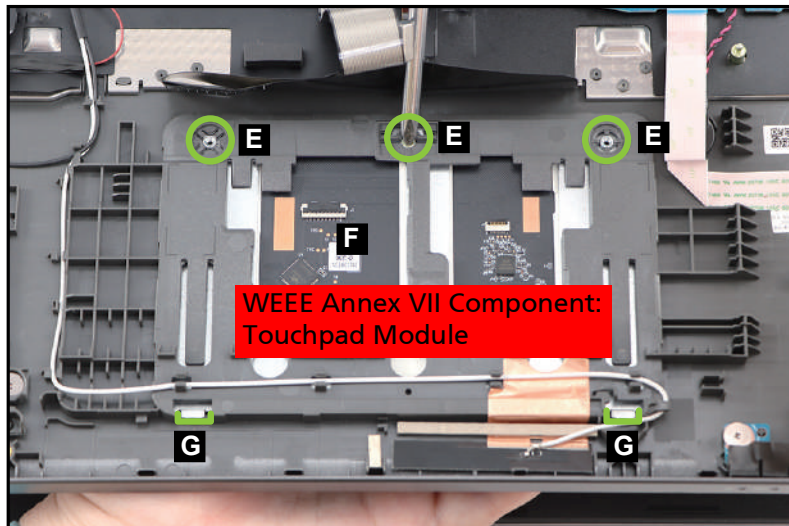

Figure 3-52. Touchpad Module Removal
7. Using the screwdriver, push the guide pins (E) firmly to release it from the top assembly (Figure 3-52).
8. Slide the touchpad module (F) slightly to disengage it from the bottom latches (G), and then remove the touchpad module from the top assembly (Figure 3-52).